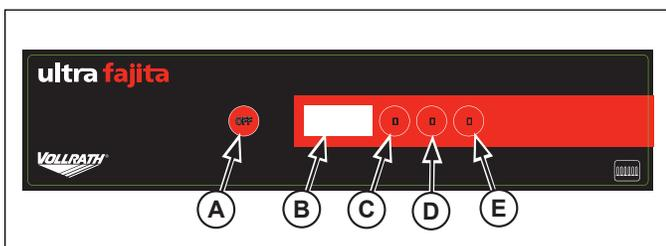

Figure 1. Control Panel
2. Press the "1", "2" or "3" button. The the heating cycle will begin and the preset timer will begin to countdown on the display panel (B). See Figure 1.